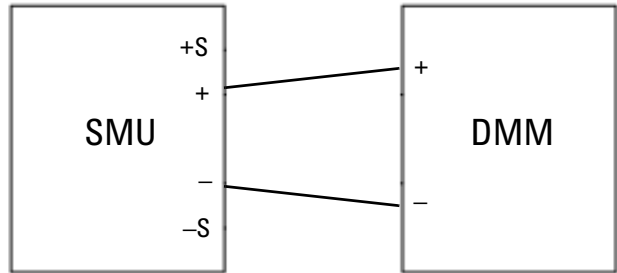

Figure 3-2 Current test setup (no load condition)
- 1 Turn off the U2722A/U2723A. Connect the DMM to the output to be tested (refer to Figure 3-2). Ensure that there is no load connected. Turn on the U2722A/U2723A.